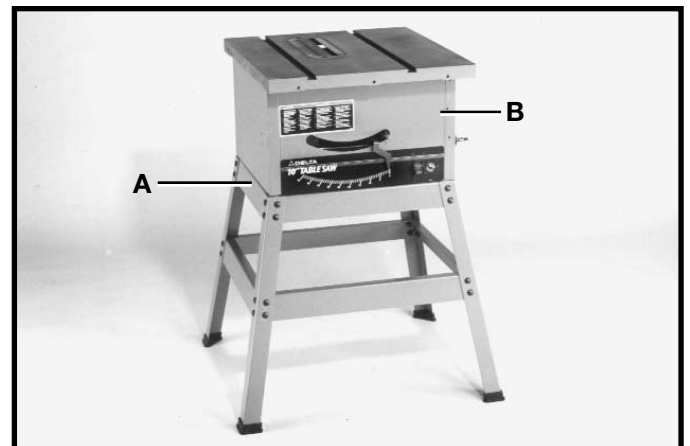

Fig. 6
1. Position the saw (B) on the stand as shown in Fig. 6, lining up the four holes on the bottom of sides of the saw cabinet with the four holes in the two top side braces, one of which is shown at (A).